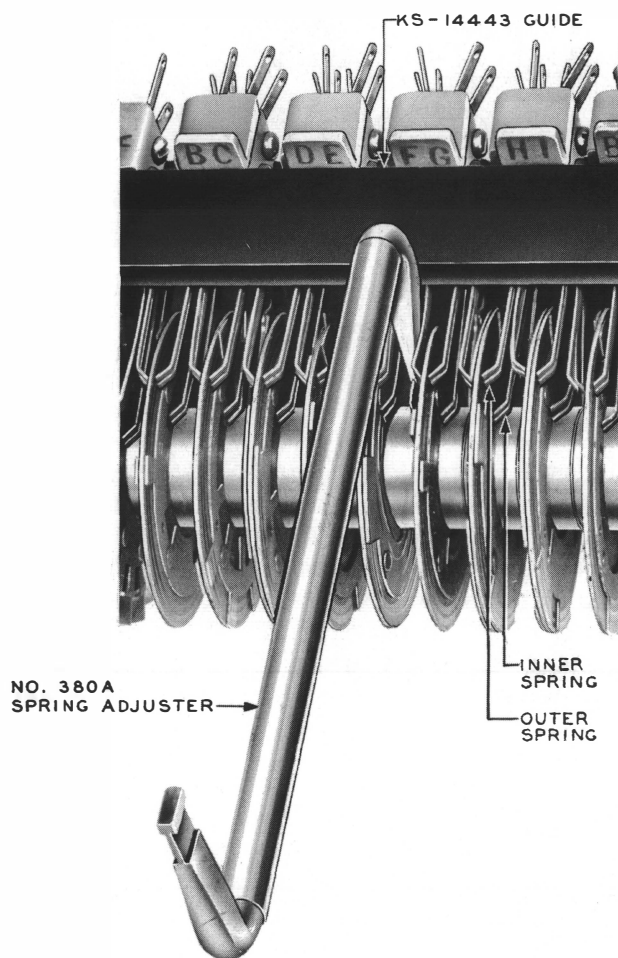

Fig. 4 – Method of Removing Worn Inner Spring Tips
3.09 With the guide properly located as described in 3.02, place the 380A spring adjuster on the inner spring the tip of which is to be replaced. If the slot in the spring adjuster is too narrow to engage the spring, try another 380A spring adjuster or slightly widen the slot with the KS-6854 screwdriver. Push the adjuster back on the spring so that it rests against the guide as shown in Fig. 4.